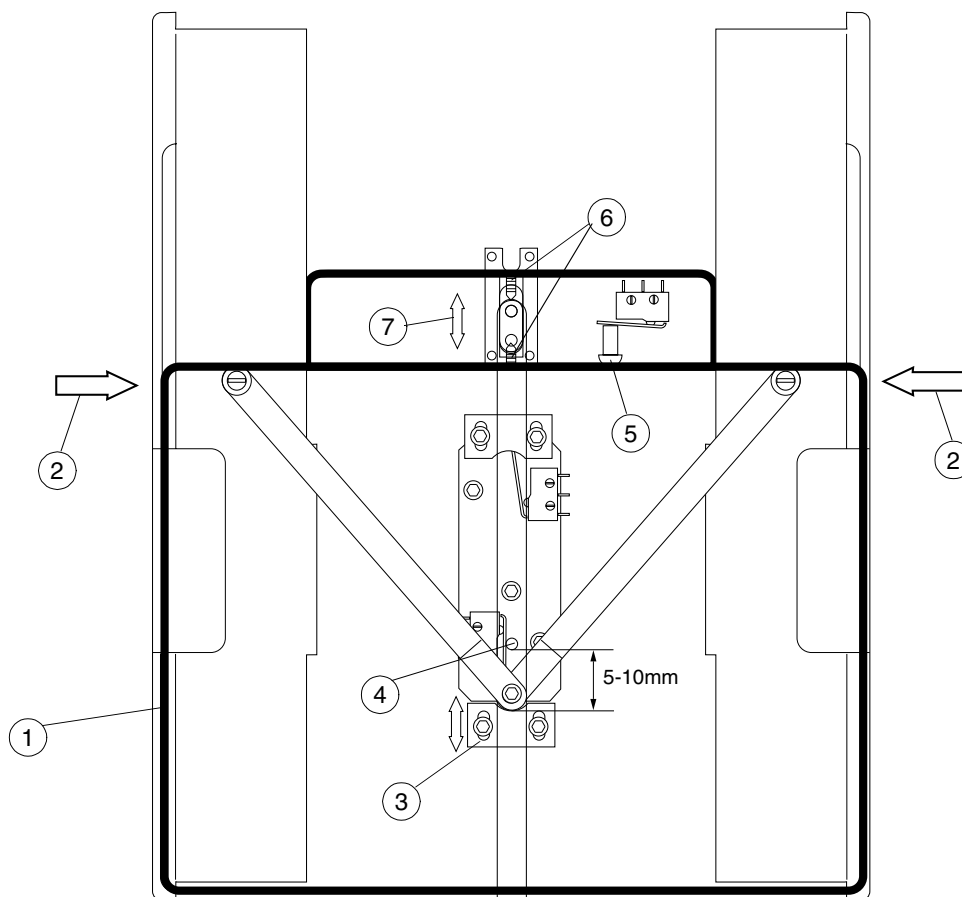

Figure F.37
- Loosen the lever holder (Fig. F.37, 3) screws.
- Place the small cassette (Fig. F.37, 1) on the cassette table, press the side guides firmly to the cassette sides (Fig. F.37, 2).
- b) Check that the lever assembly knob (Fig. F.37, 4) hits only to the microswitch actuating lever.
- a) Check that the sensing button (Fig. F.37, 5) connects the microswitch at least in the middle of buttons movement. Check that the button moves freely to the frame level.
- f) Adjust with the holding screws (Fig. F.37, 6) the labeling head in front/back direction (Fig. F.37, 7) so that the cassette is firmly against the labeling head frame.